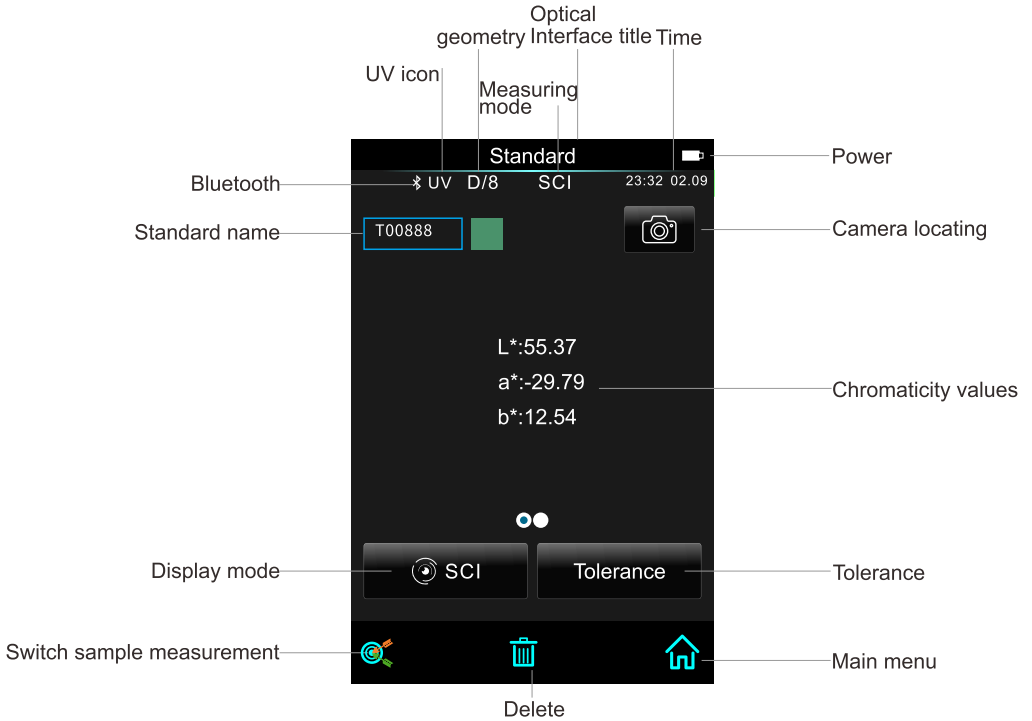
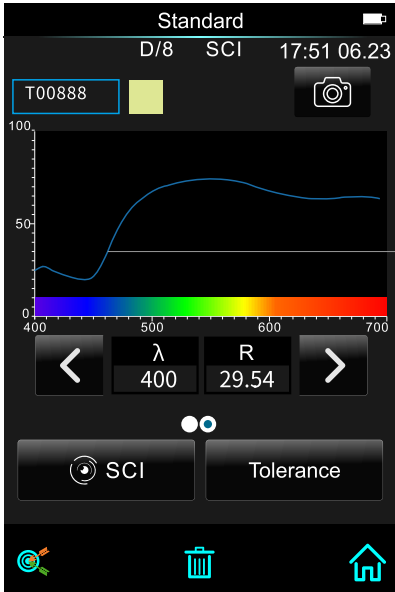
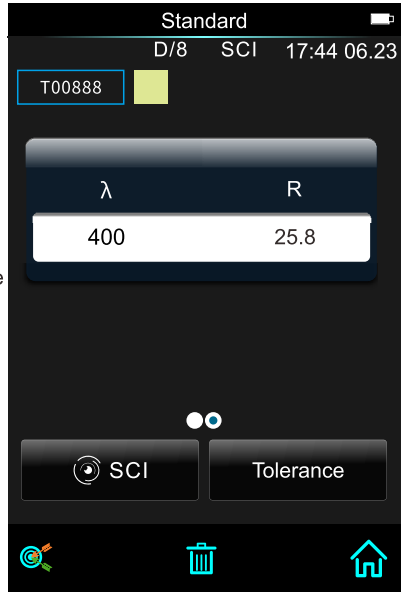

Figure 11 Standard Measurement
Figure 12 Standard reflectivity 1
Figure 13 Standard reflectivity 2
In "Standard Measurement" interface, Align the measuring aperture to sample tightly and press the "Measuring Button". Then there will be a "Beep" voice, and the LED indication light will flash then off. After that, sounds the "Beep" voice again that means measurement finished. The interface of the tested sample is shown in Figure 11, Figure 12 and Figure 13.
- 10)Wavelength switch button: As shown in Figure 12, click < or >, the wavelength and reflectivity of the current sample will be switch at the interval of 10nm. Partial instrument models only show partial reflectivity, as shown in figure 13.